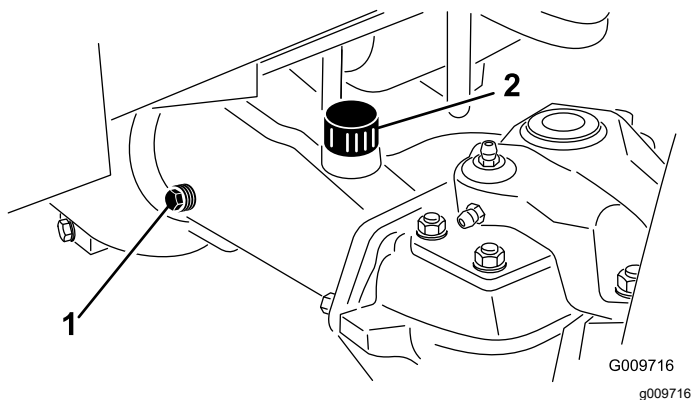

Figure 79
2. Remove a check plug from 1 end of the axle and ensure that the lubricant is up to the bottom of the hole (Figure 79).